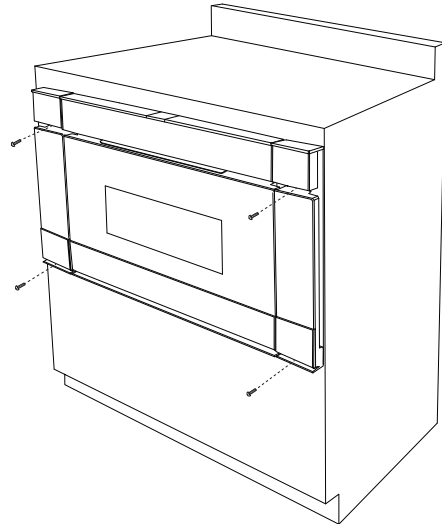

Figure 7
11. Mount the Left and Right 30" trim extensions using the 4 trim screws provided. See Figure 7.